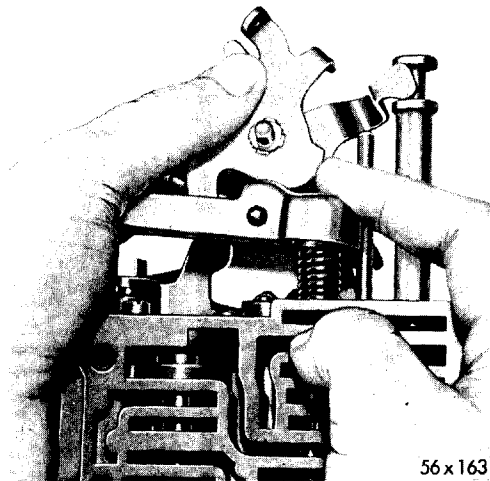
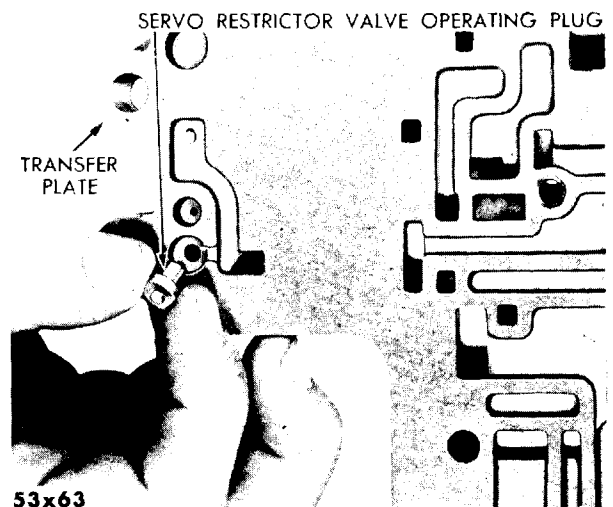

Fig. 52—Indexing Throttle Valve Cam Shaft With Throttle Valve Operating Lever
Fig. 53—Installing Servo Restrictor Plug
(16) Install valve body end cover to valve body. Make sure the shift valve, shuttle valve and kickdown valve springs are properly seated in position when cover is being installed.
(17) Install the valve body end cover screw and lockwasher but do not torque.
(18) Install the three (long) valve body end cover plate screws and lockwashers. Draw down evenly and tighten to 24 to 30 inch-pounds torque.
(19) Remove valve body from repair stand. Using wrench, Tool C-3279B, install throttle valve adjusting screw, and throttle valve operating lever assembly. Adjust to approximately 1- $\frac{1}{16}$ " distance between the valve body and end of throttle valve adjusting screw.
(20) Install throttle valve (point outward) in valve body. Place throttle valve spring over throttle valve. Swing throttle valve operating lever over spring. Compressing the throttle operating lever assembly against the throttle valve spring, slide the throttle valve cam assembly into throttle valve operating lever, indexing the cam portion in slot of operating lever, as shown in Figure 52. Replace throttle valve cam assembly return spring and replace valve body in stand.
(21) Install servo bleed valve and throttle pressure check valve ball into position in valve body, and install guide studs, Tool C-3295.
(22) Install the servo restrictor valve operating plug (long end first) into transfer plate (Figure 53.) Make sure the pump check valves and springs are properly positioned in transfer plate. The pump check valve with the metering hole should be positioned, in end of transfer plate, that lies next to the manual valve.
(23) Place the valve body plate flush into position on valve plate by compressing pump check valve springs. Make sure pump check valves enter transfer